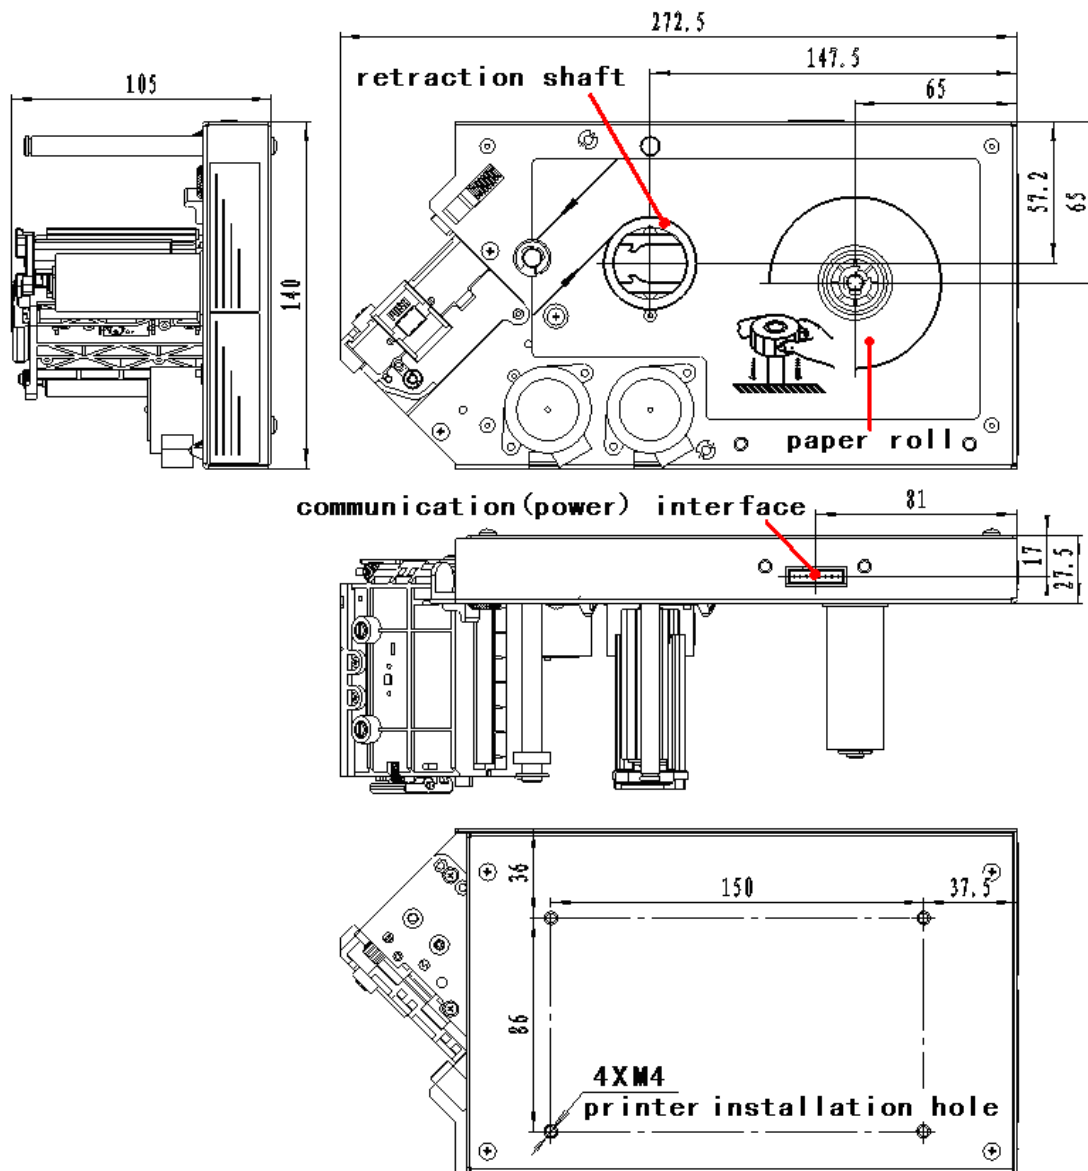

Figure 4.2.1 Dimension
- This printer has fixing hole and side cover fixing hole. You should select suitable space and fixing position of the printer referred to figure 4.2.1